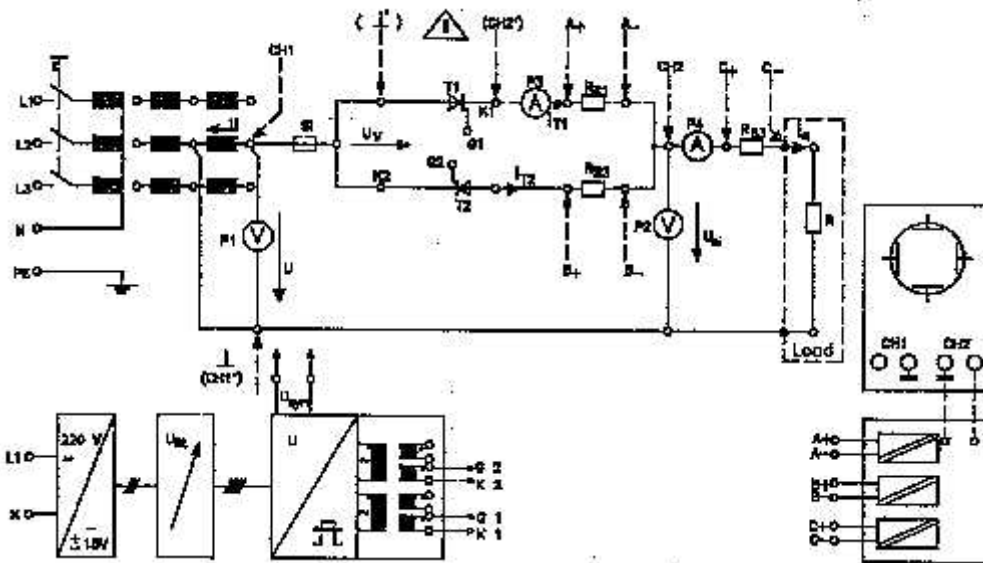

Figure 1 Single phase AC Voltage controller
- Connect the power circuit as shown in Figure 1, while using the supply voltage equal to 45V and a load resistance of 33 Ω, (three 100 Ω resistance connected in parallel)